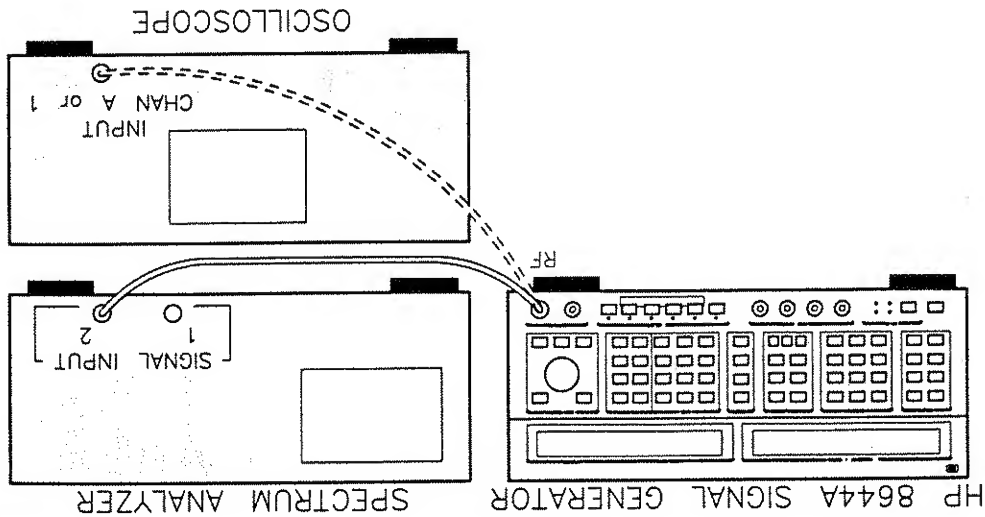

Figure 2-5. Equipment Setup for AM Procedure #1.
1. Connect the HP 8644A to the Spectrum Analyzer (or Oscilloscope) as shown in figure 2-5. Turn on the equipment, and make the following adjustments: